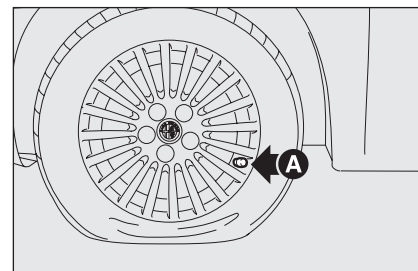

fig. 13
- ☐ set the wheel to be repaired with valve **A**-fig. 13 in the position shown in the figure, **then pull up the handbrake**, take the quick tyre repair kit and put it on the ground near the wheel to be repaired;